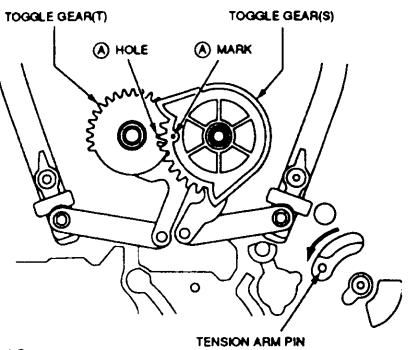

Fig 10.
- Set the TOGGLE GEARS (T) and (S) to the unloaded position with your fingers. Align the (A) mark on the TOGGLE GEAR (S) with the (A) hole of the TOGGLE GEAR (T) as shown in Fig 10.